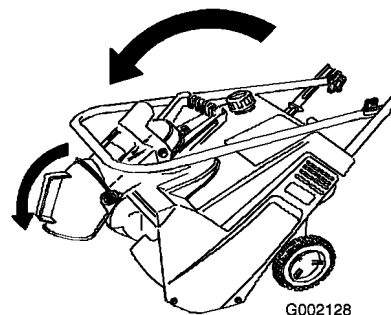

Figure 12
2. Fold the discharge chute down and install the knob tightly onto the bolt at the rear of the discharge chute handle (Figure 12).